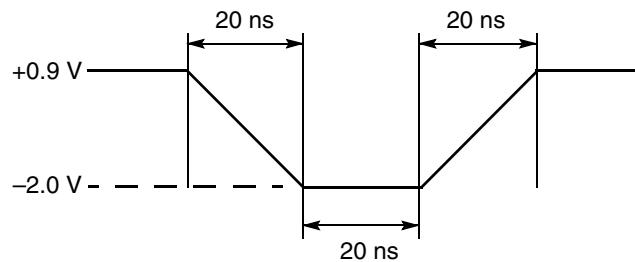
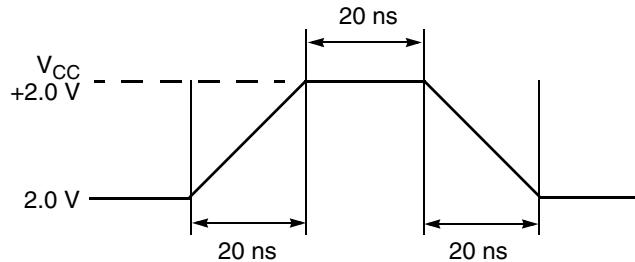

Figure 5. Maximum Negative Overshoot Waveform
Figure 6. Maximum Positive Overshoot Waveform
1. Minimum DC voltage on input or I/Os is -0.5 V. During voltage transitions, input at I/Os may undershoot V_{SS} to -2.0 V for periods of up to 20 ns during voltage transitions inputs might overshoot to $V_{CC} + 0.5$ V for periods up to 20 ns. See Figure 5. Maximum DC voltage on output and I/Os is $V_{CC} + 0.5$ V. During voltage transitions outputs may overshoot to $V_{CC} + 2.0$ V for periods up to 20 ns. See Figure 6.
2. Minimum DC input voltage on V_{PP} is -0.5 V. During voltage transitions, V_{PP} may overshoot V_{SS} to -2.0 V for periods of up to 20 ns. See Figure 5. Maximum DC input voltage on V_{PP} is +12.5 V which may overshoot to +13.5 V for periods up to 20 ns.